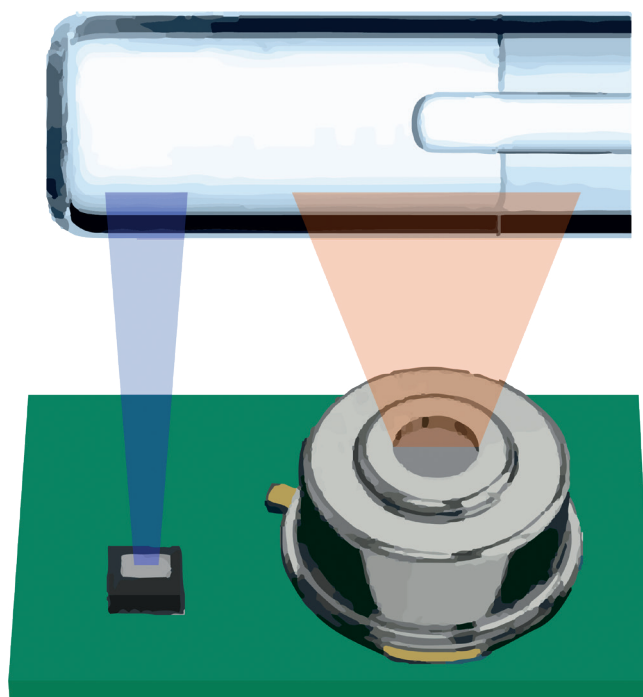

Figure 5: Infrared temperature sensor in both SMD and TO-can packages. Narrow FOV and optimum distance from the cartridge must be selected for accurate sensing.
Small IR thermal sensors with narrow FOV and excellent thermal stability, even in thermally challenging conditions, have been recently deployed to fulfill the demands of this forthcoming class of medical device (Figure 5). This is essential expertise in this application. The latest generation of IR sensor integrated circuit (IC) can draw as little as hundreds of microwatts ( $\mu\text{W}$ ) of power, even while executing measurements continuously, with a sensor that remains active without entering any sleep-mode states. That represents a considerable achievement for enabling power-sensitive implementation in battery-powered autoinjectors.